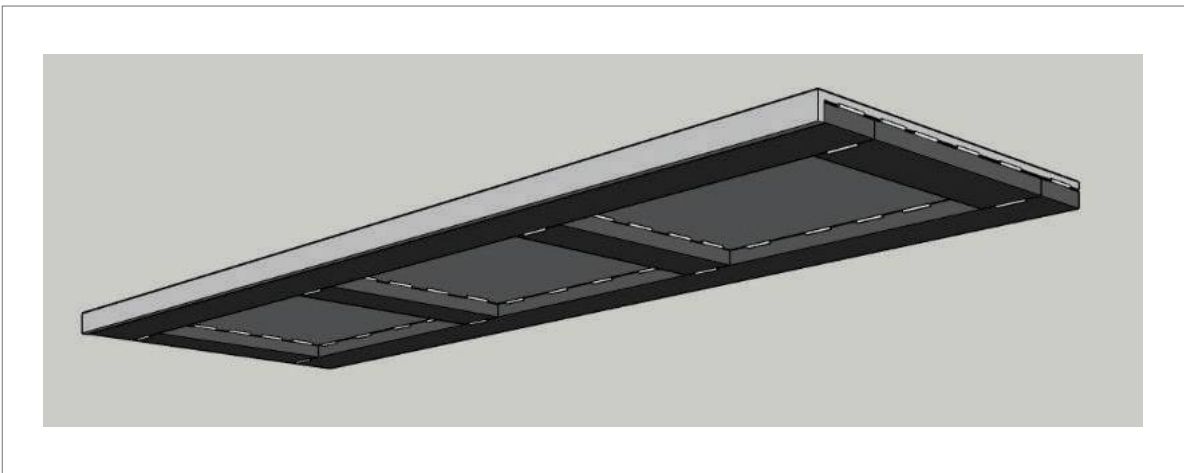

Fig.1
2. Use a WHITE HIMACS adhesive and place an adhesive bed around the plastic part as per figure 1.
Ensure the sub-construction is resistant according to its requirements and specifications needs. When used as a kitchen work surface, a frame substructure is strongly recommended. A full sub-structure can, but need not, be used (Fig.1).